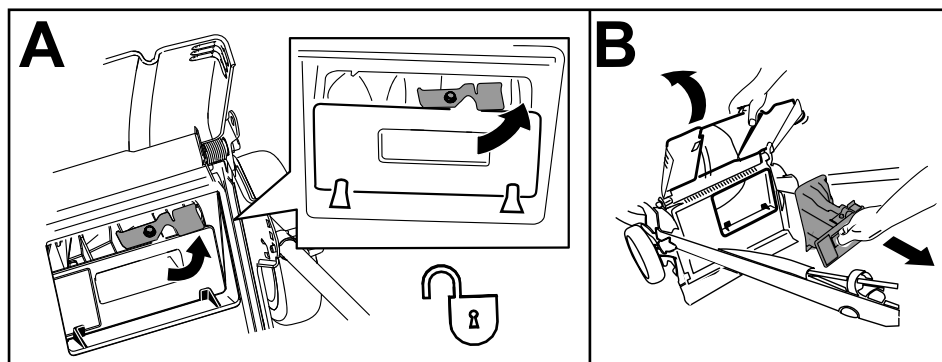

Figure 27
2. Unlock the rear-discharge plug (A of Figure 27).
3. Pull out the rear-discharge plug (B of Figure 27).